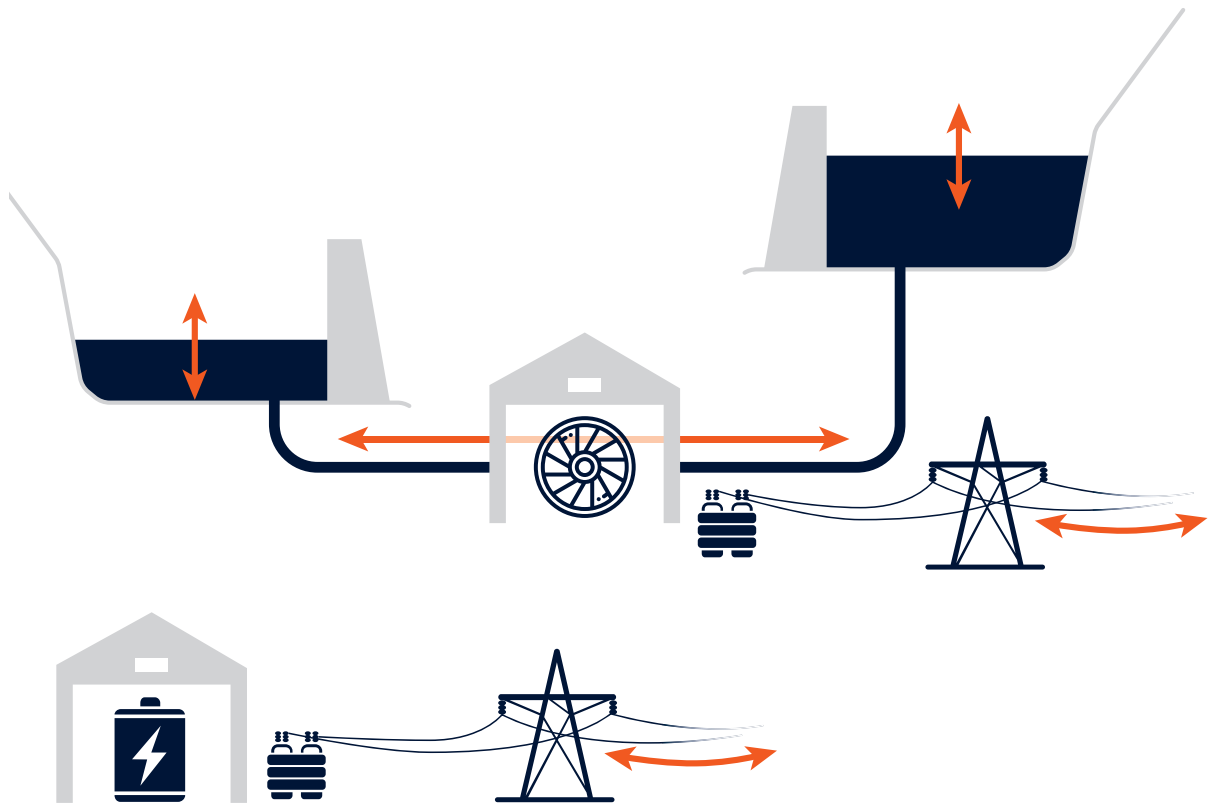

Figure 1: Energy storage and supply for frequency control.
*Figure 1:* The master brewer can keep track of the entire production process at a glance via the multiple monitors displaying supervision application information in the control room.
Figure 1: The Power Management System overview screen displays real-time status and trend information of different devices, e.g. charging and discharging of the batteries.